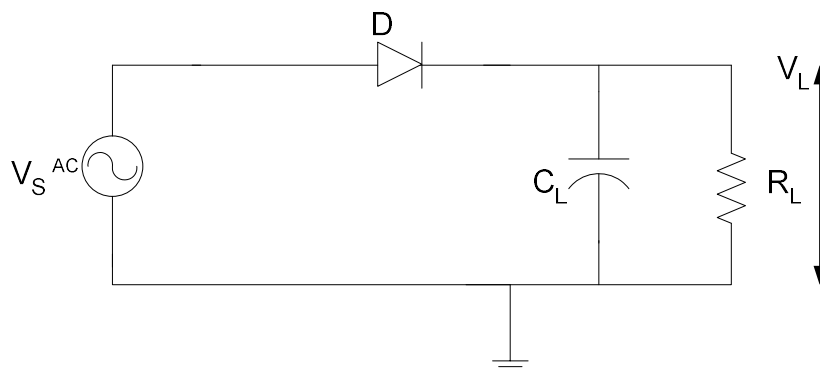

Fig. 3.9 Peak detector rectifier
1. Construct the circuit as shown in Fig. 3.9. Adjust  $V_S$  to 15 Vpp sine wave at 1 kHz.